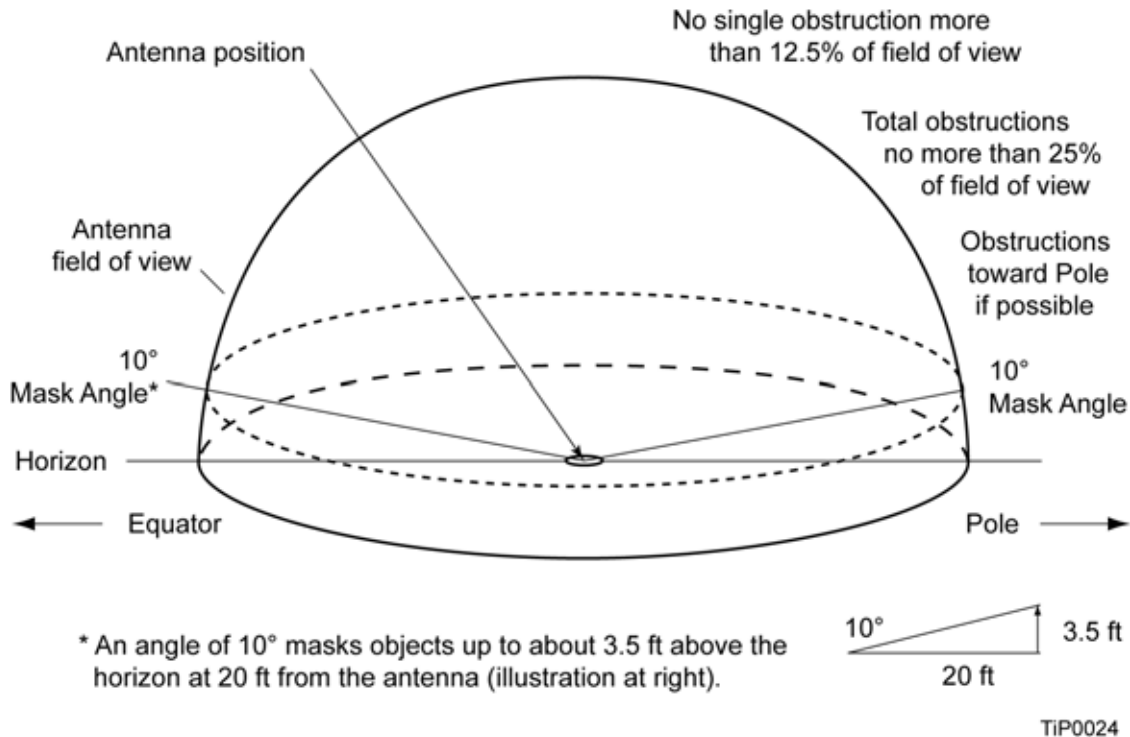

Figure D-1. Locating the GPS Antenna
Use Figure D-1 as a guide to locating the antenna.
- In general, do not allow obstructions that obscure the horizon (as viewed from the antenna) by more than 10 degrees, as shown in Figure D-1.